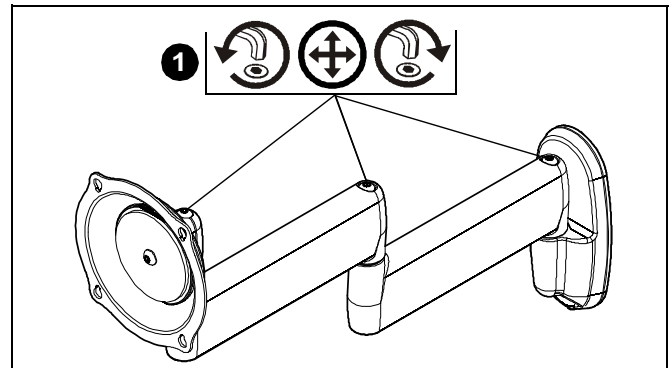

Figure 8
- Slightly loosen or tighten the adjustment screw(s) as necessary. (See Figure 8)